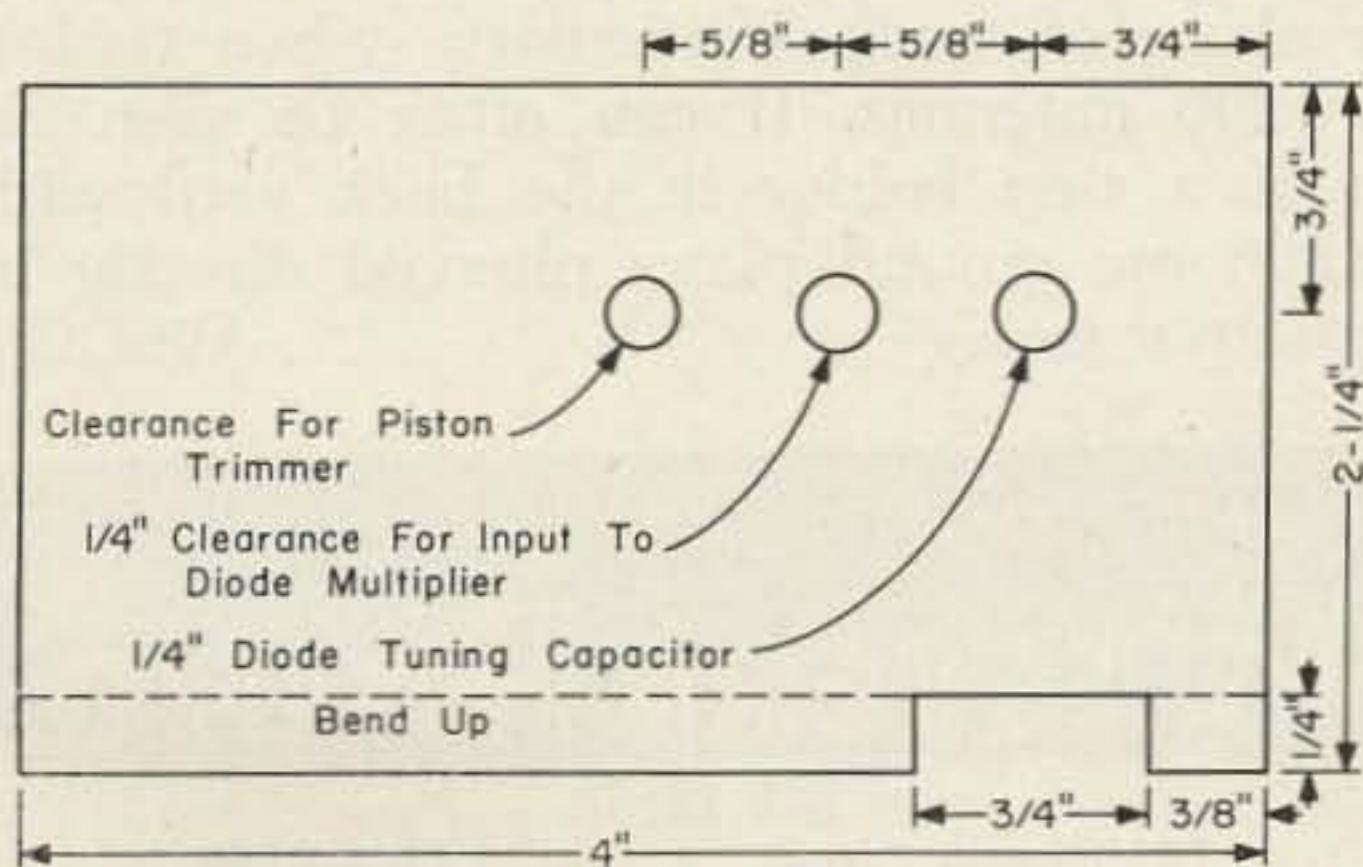

FIGURE 3
3. *An rf oscillator or bfo.* (See Fig 3.) By using this as a test oscillator I fixed some of the other radios. The value of R will change the wave shape. Too low a value will give a very peaked wave, while a high value will give a square wave. Somewhere in between 50 and 100 K ohms you should get a nice sine wave. By putting posts on the points marked X you can make an rf transistor checker. By putting the right value of condenser in parallel with the variable, you have a bfo. This has been used with a no name type short wave receiver for code practicing. I have used one of the 3" speakers on my receiver.
A small L bracket was used to mount the battery and the tuning capacitors and provide shielding between the circuits. The dimensions for this are shown in Fig. 3.